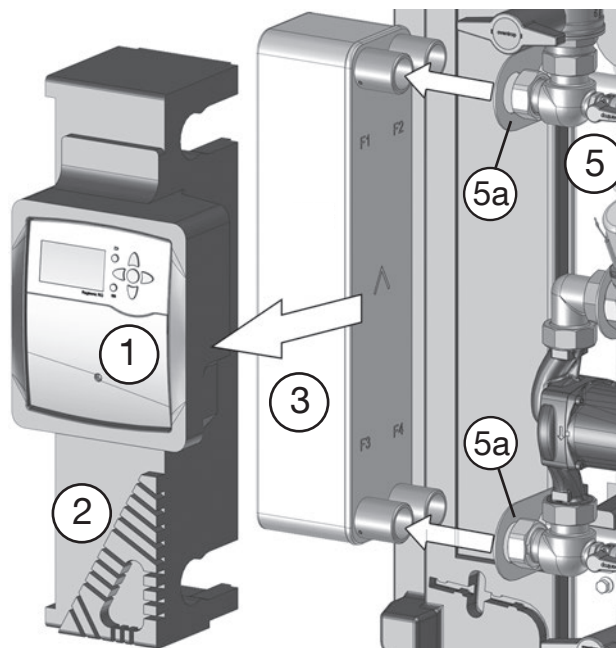

Fig. 5.7: Remove the controller insertion block and the heat exchanger
7. Remove the controller insertion block (2) with the controller (1) from the heat exchanger by carefully pulling it forward (Fig. 5.7).
8. Carefully remove the heat exchanger (3) from the two straps (5a) of the base plate (5) and lay it down on a level surface with the connections pointing upwards.